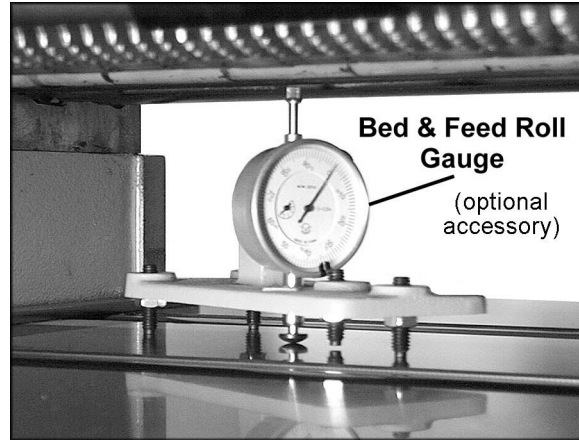

Figure 9
2. Place a dial gauge under a knife insert in the cutterhead. (Figure 9 shows a Bed and Feed Roll Gauge – accessory #2230002 – which can be purchased from your dealer.)